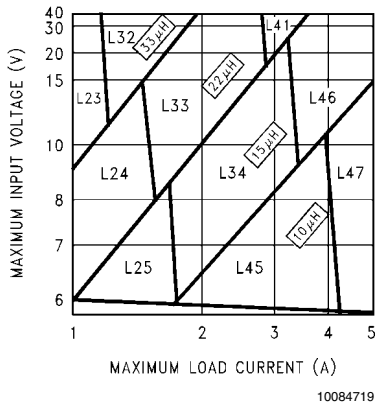
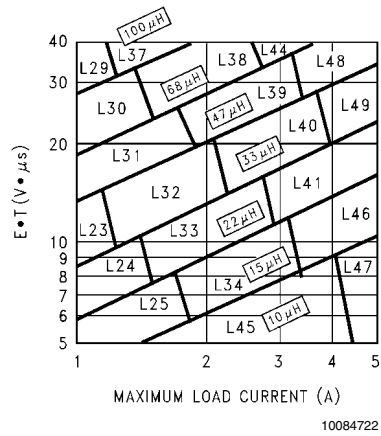

FIGURE 3. LM2679-3.3
FIGURE 6. LM2679-ADJ
**Step 3:** Determine the inductor required by using one of the four nomographs, *Figure 3* through *Figure 6*. Table 1 provides a specific manufacturer and part number for the inductor.
**Step 5:** Determine an input capacitor from Table 4 for fixed output voltage applications. Use Table 2 to find the specific capacitor type. For adjustable output circuits select a capacitor from Table 2 with a sufficient working voltage (WV) rating greater than  $V_{in\ max}$ , and an rms current rating greater than one-half the maximum load current (2 or more capacitors in parallel may be required).
**Step 3:** Use the nomograph for the 3.3V device, *Figure 3*. The intersection of the 16V horizontal line ( $V_{in\ max}$ ) and the 4A vertical line ( $I_{load\ max}$ ) indicates that L46, a 15 $\mu$ H inductor, is required.
**Step 3:** To use the nomograph for the adjustable device, *Figure 6*, requires a calculation of the inductor Volt•microsecond constant ( $E \cdot T$  expressed in  $V \cdot \mu S$ ) from the following formula:
Using *Figure 6*, the intersection of 27V•μs horizontally and the 3.5A vertical line ( $I_{load}$  max) indicates that L48, a 47μH inductor, or L49, a 33μH inductor could be used. Either inductor will be suitable, but for this example selecting the larger inductance will result in lower ripple current.
**Important Note:** When using the adjustable device in low voltage applications (less than 3V output), if the nomograph, *Figure 6*, selects an inductance of 22μH or less, Table 6 does not provide an output capacitor solution. With these conditions the number of output capacitors required for stable operation becomes impractical. It is recommended to use either a 33μH or 47μH inductor and the output capacitors from Table 6.